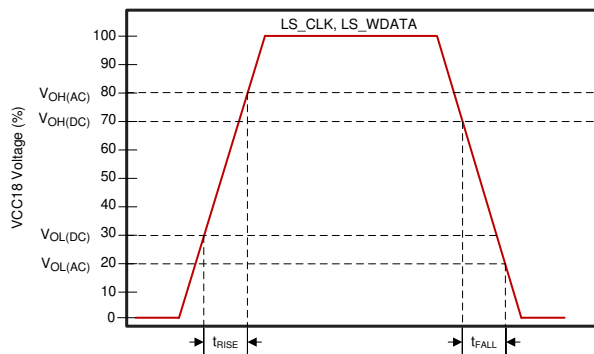

Figure 6-3. LS_CLK and LS_WDATA Slew Rate
- See Figure 6-3 for DMD_LS_CLK, and DMD_LS_WDATA rise and fall times. See Figure 6-4 for DMD_DEN_ARSTZ rise and fall times.